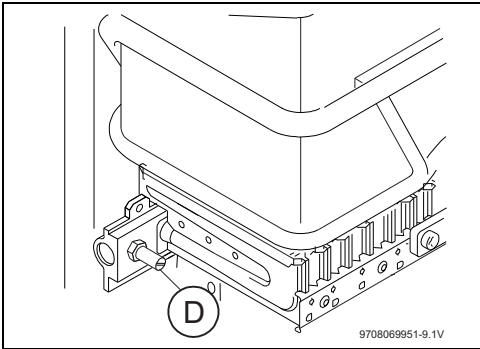

Fig. 15 Burner pressure test point
- ▶ Loosen the burner test point captive screw (→ Fig. 15, [D]).